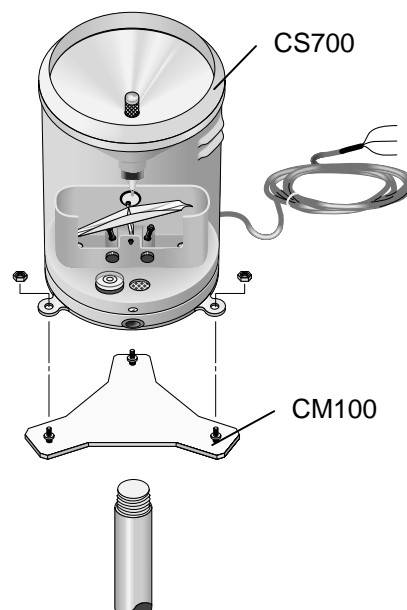

FIGURE 4.14-1. CS700-L Rain Gage and CM100 Mounting Bracket
1. Mount the CS700 to either the CM100 (Figure 4.14-1) or a user supplied bracket. Remove the CS700-L funnel from the base by removing the three screws and lifting upward. Adjust the three nuts on the CM100 bracket to level the rain gage. On user supplied brackets, shims or washers can be used to level the rain gage. A bubble level is mounted on the CS700-L base to facilitate leveling.